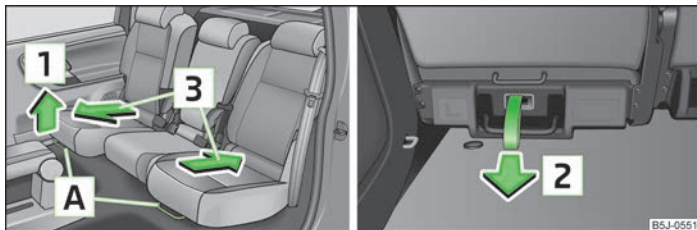

Fig. 38 Releasing at the front/rear
- Pull the lever [A] » Fig. 38 up in the direction of arrow [1] or on the release loop in direction of arrow [2] and move the seat into the desired position [3].